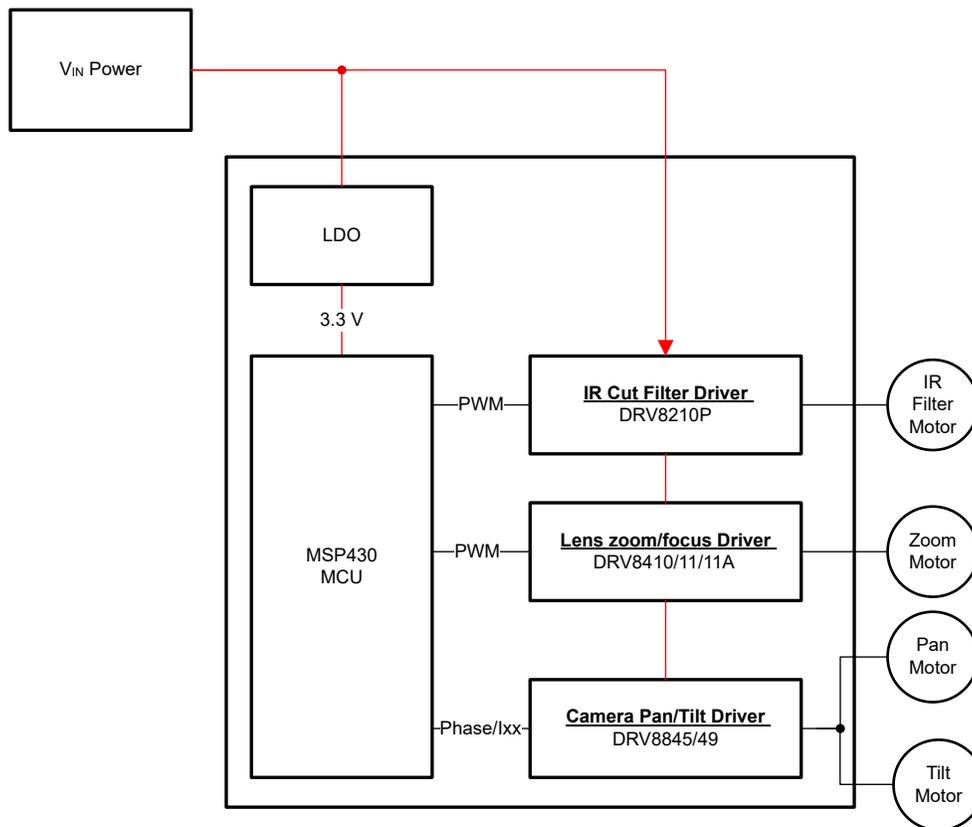

Figure 1. Video Surveillance Motor Drive Applications
Video Surveillance cameras are becoming more common today as new technology is making it easier and more cost effective for broad use. IP Network, analog security, thermal imaging, video doorbell and baby or pet monitors are examples of the diverse application base. Within these different devices there are three main motor applications; Infrared (IR) filter, lens motors (zoom and focus) and camera motors (pan and tilt). Figure 1 provides an overview for these different functions and Table 1 provides a list of devices with system benefits.